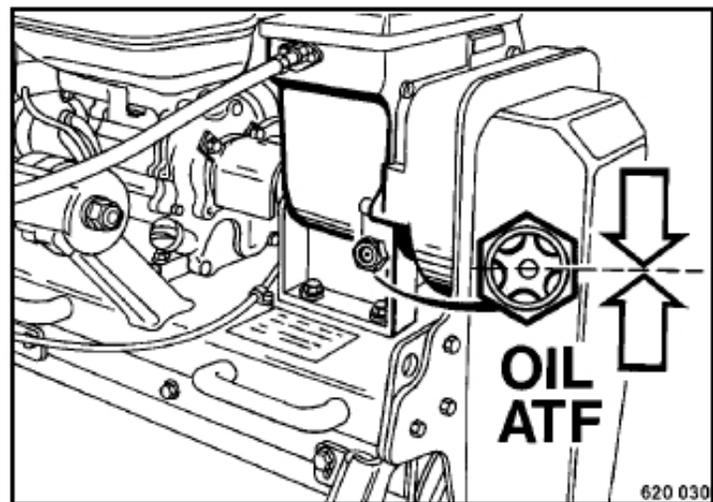

Fig. 33
- | Check the oil level in the sight glass (Fig. 33).